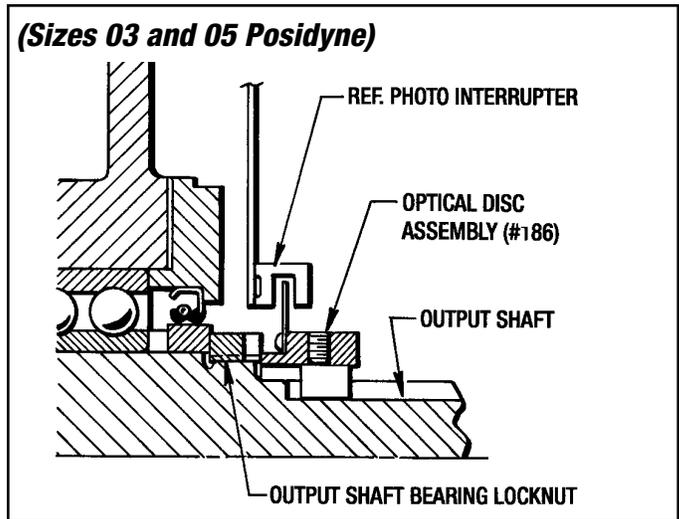

Figure 6.5 - Optical Disc and Hub Positioning (Sizes 03 and 05 Posidyne)
- Slide the Optical Disc Assembly (#186) onto the output shaft until the Optical Disc Hub butts up against the Locknut on the output shaft. (See *Figure 6.5*)